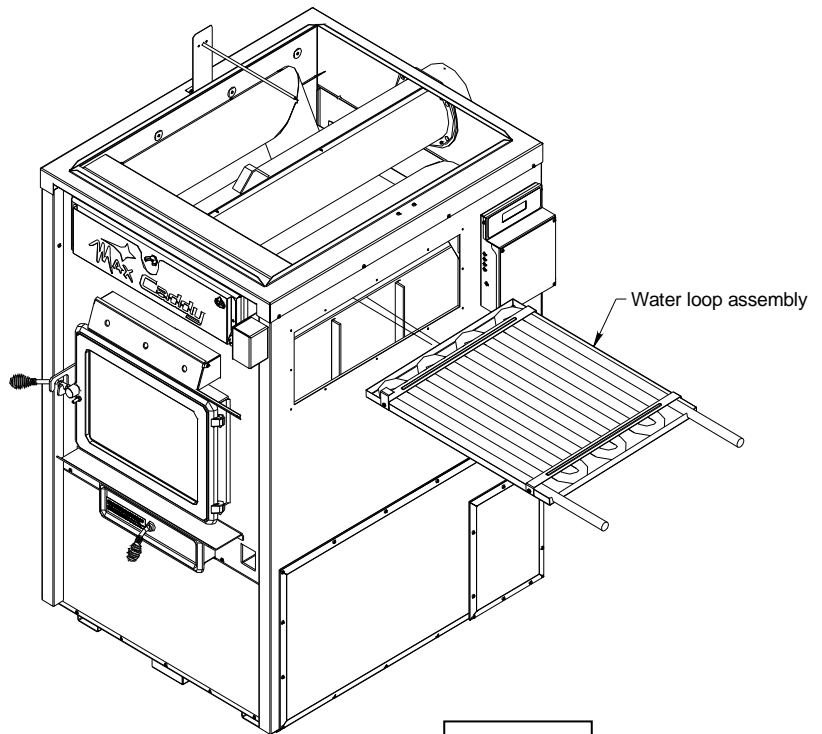

Figure 4
Step 3: Slide the hot water loop assembly into the furnace, between the firebox and the heat exchangers. It is important that the assembly be centered on the top of the firebox to ensure its stability and safe installation. (Figure 4)